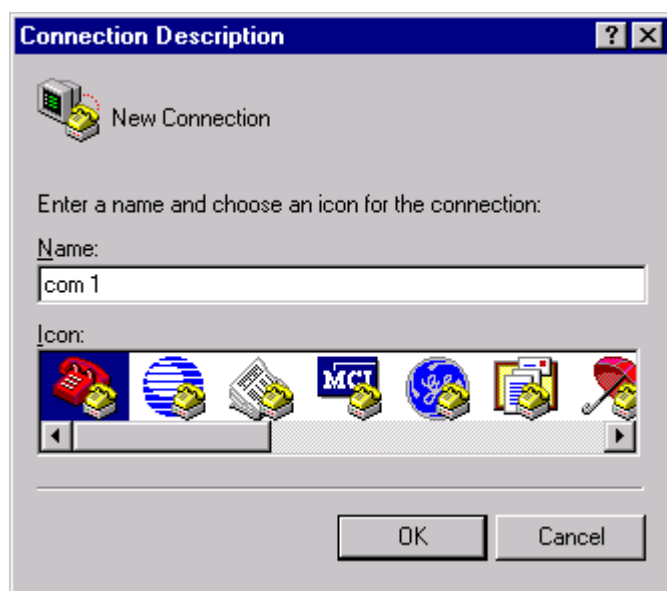

Figure 1-1
3. A window will appear as in Figure 1-1. Enter **COM 1** in the name box. Press the OK button.